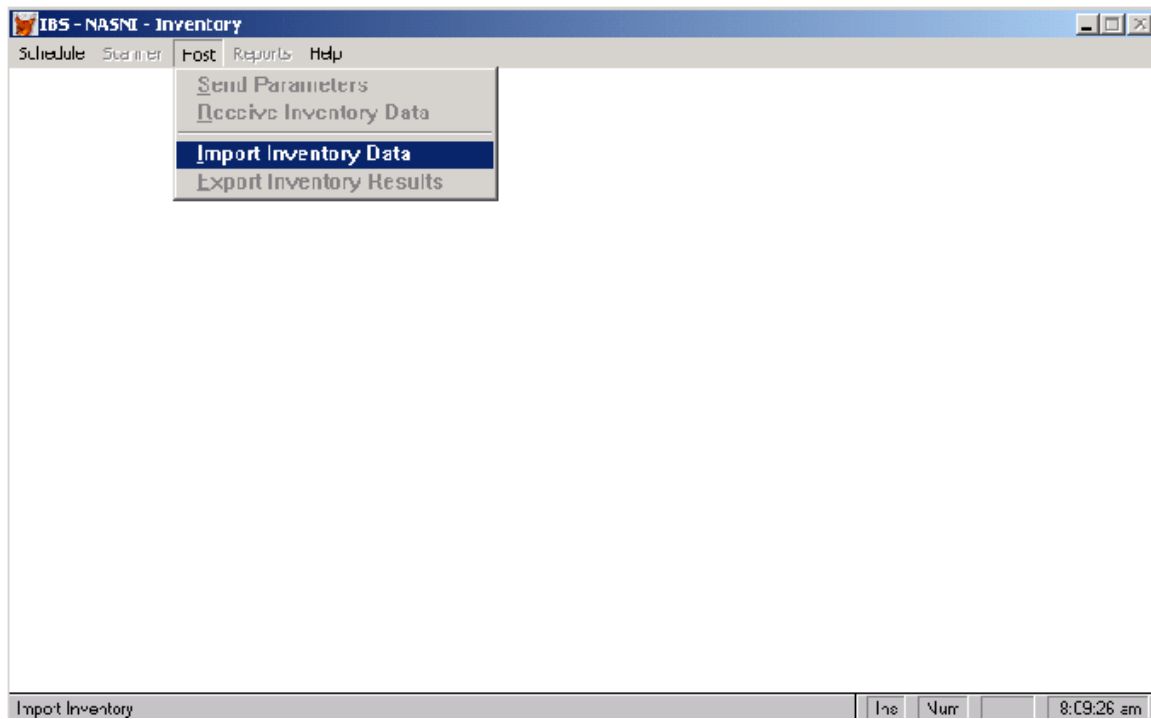

Figure D2
- b. Select Inventories> Host> Import Inventory Data. (FIGURE D2)